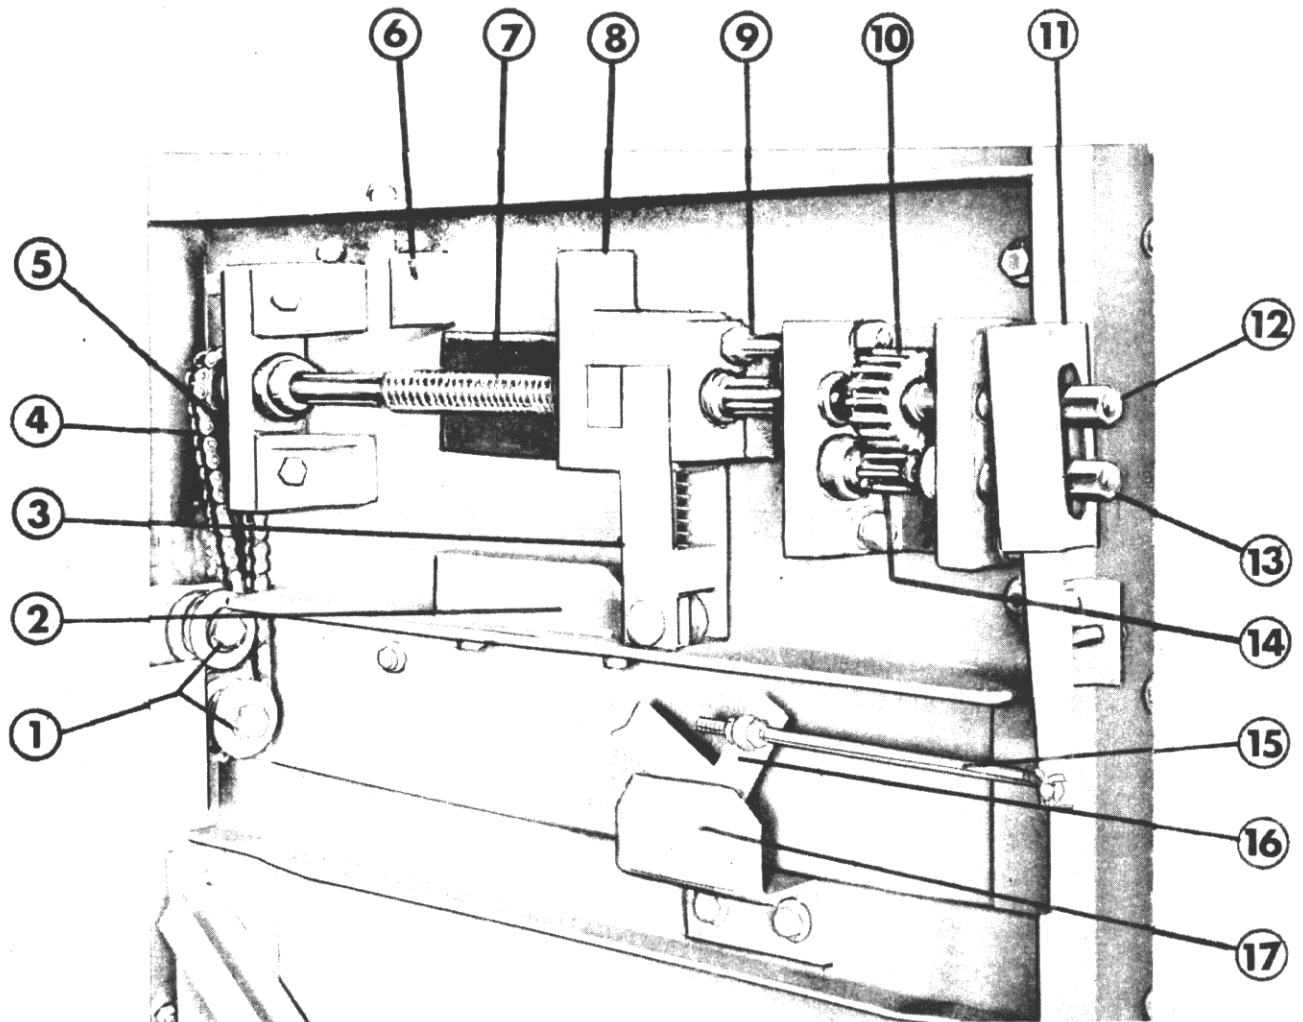

Figure 3 (354848)
1. Roll the breaker truck into the compartment until the rack-out lugs stop against the pull-out block. See Figure 3.